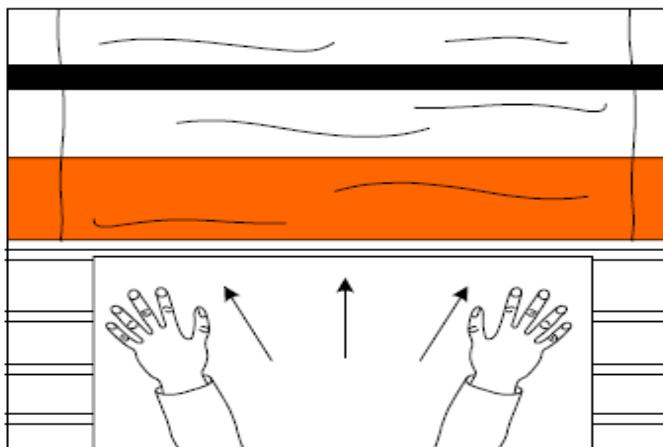

Fig. 28
11. With both hands and an outward force push the image slower than the speed of the rollers into the nip of the heat rollers (Figure 28).